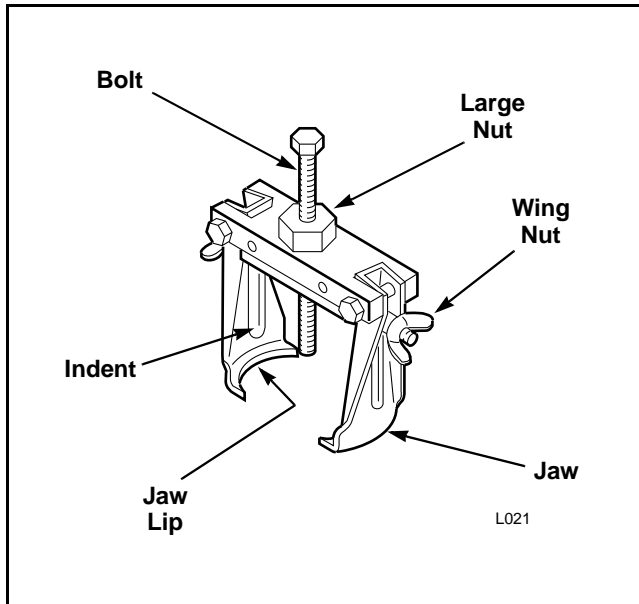

Figure 14
**NOTE:** To remove the drive bell from the transmission shaft will require using the No. 294P4 Drive Bell Tool. Refer to *Figure 14*.